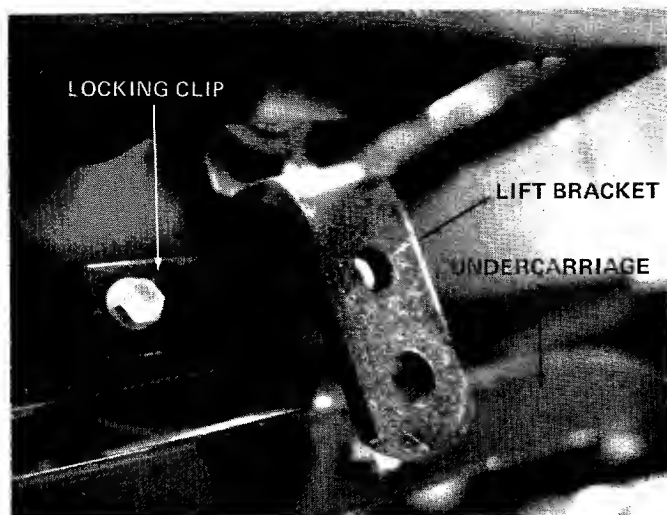

FIGURE 11
3. Remove the locking clip on each side of the tractor. See figure 11.